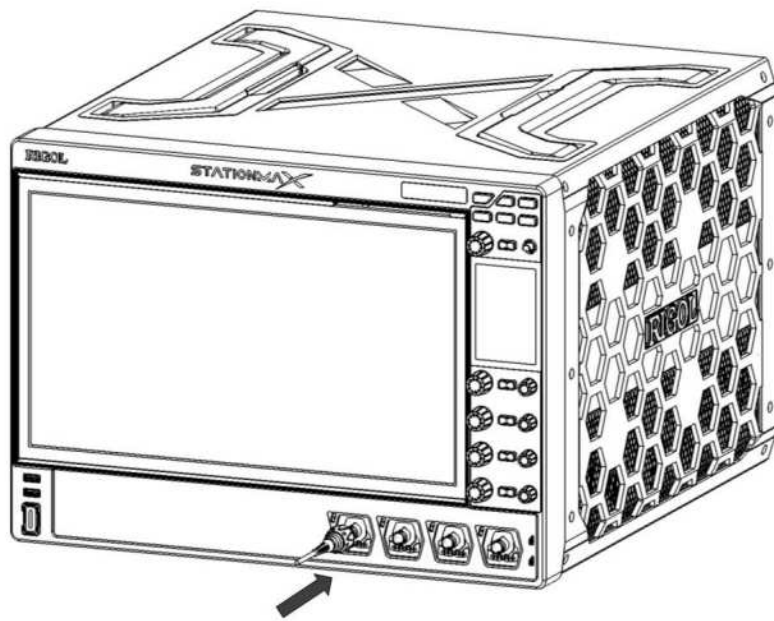

Figure 4.4 Connect the Passive Probe
1. Connect the BNC terminal of the probe to an analog channel input terminal of the oscilloscope on the front panel as shown in *Figure 4.4*.